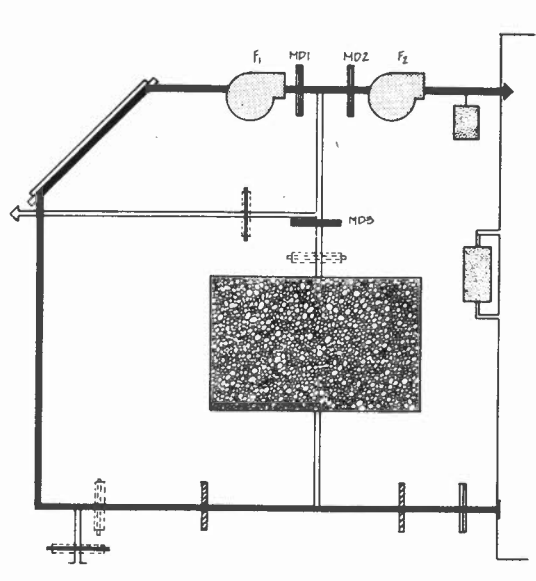

Figure 8.1 Collector to House Mode
**FIG. 8.1 COLLECTOR TO HOUSE:** Whenever there is a first stage call for heat by the house ( $W_1$ ), and the collectors are at least 20°F hotter than the storage ( $\Delta T$ ), hot air is drawn directly from the collectors. Motorized Dampers 1 and 2 (M.D. 1 and M.D. 2) open and Motorized Damper (M.D. 3) remains closed. Both the Collector Fan ( $F_1$ ) and the House Fan ( $F_2$ ) turn on. Heat is drawn from the collectors and blown into the house, with cool room air being sent to the collector. This is a priority mode and will occur whenever there is a call for heat and the collectors are hot enough to supply it.